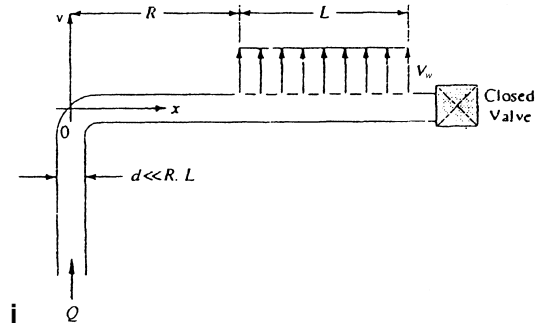

Fig. P3.125
3.125 A liquid of density ρ flows through a 90° bend as in Fig. P3.125 and issues vertically from a uniformly porous section of length L . Neglecting weight, find a result for the support torque M required at point O.